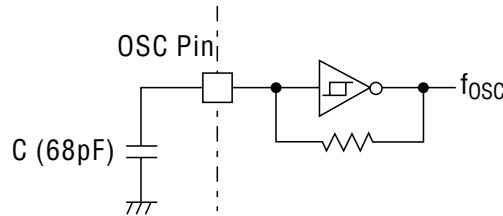

Figure 4 Oscillator Equivalent Circuit
Connect an external capacitor (C), as shown in Figure 4. The oscillating frequency f_{OSC} depends on the external capacitor used. The following equation is true between f_{OSC} and grid frequency (f_{GRID}):